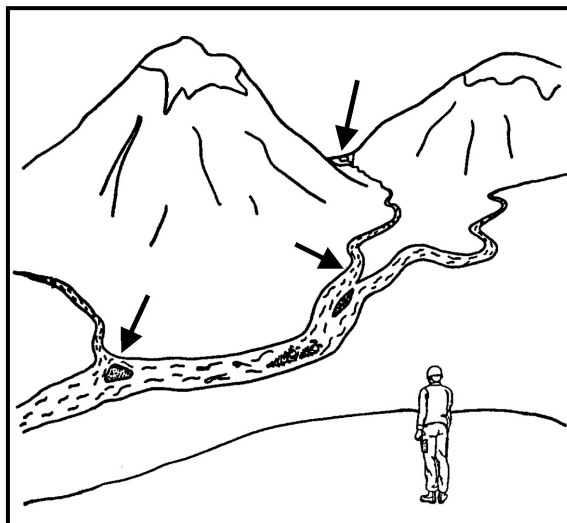

Figure 9-1. Normal locations of shallowest water and safest crossing sites.
a. Site selection is extremely important once you determine that you must make a crossing (Figure 9-1). Look for a high place from which you can get a good view of the obstacle and possible crossing sites. A distant view, perhaps from a ridge, is sometimes better than a hundred close views from a riverbank. Site selection must be made before the arrival of the main body.